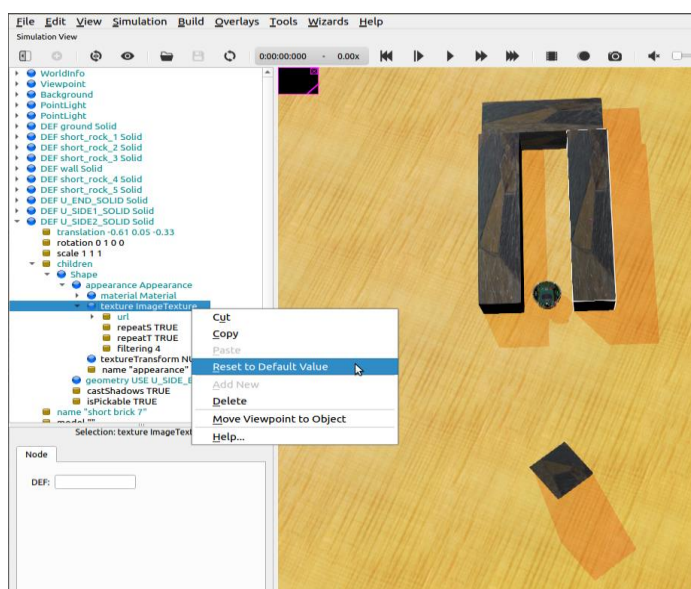

Figure 7: Reset to default shown in Webots environment.
- To remove the texture, select: DEF U_{...}_SOLID -> children -> Shape -> Appearance -> texture ImageTexture, and then right click and hit Reset to Default Value. *Figure 7* shows where this button is located.